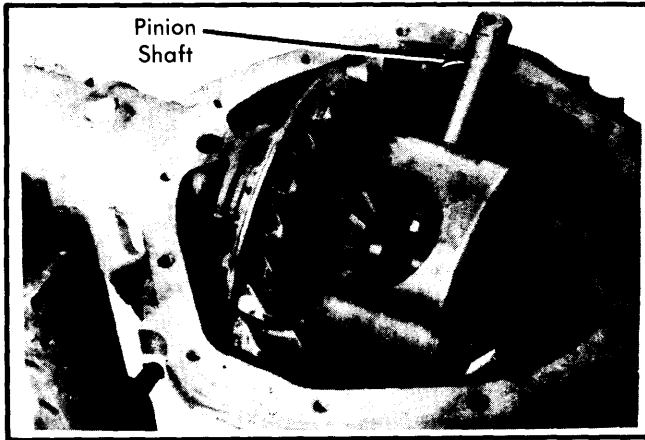

Fig. 2 Positioning Case for Axle Removal
4) Rotate differential case until pinion shaft touches edge of housing. See Fig. 2.